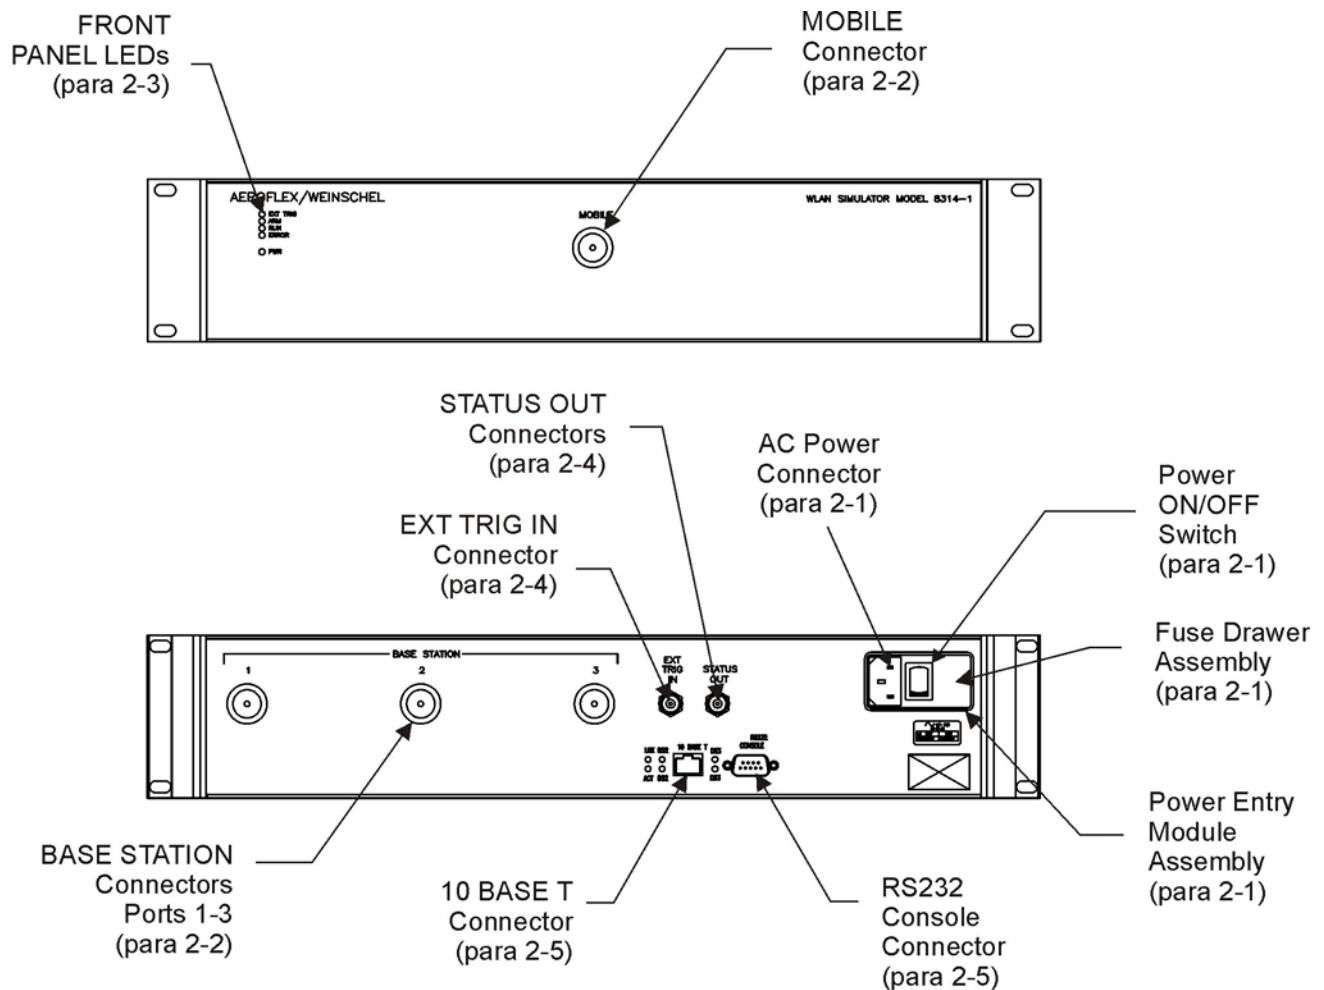

Figure 1. Front & Rear Panel Connectors & Indicators
The following paragraphs provide a description of the connections that can be made to the 8314 WLAN Simulator Subsystem. Figure 1 shows the location of these connectors.
**2-1 POWER ENTRY MODULE ASSEMBLY:** The Power Entry Module Assembly located on the rear panel contains a three-prong ac power input connector and a fuse drawer assembly (Figure 1). The **Fuse Drawer Assembly** contains the line voltage fuse (Aeroflex / Weinschel P/N 052-1-1.5). The Model 8314 uses a T 1.5A, 250 Vac fuse which is 5 x 20 mm in size. Refer to paragraph 8-XXX for replacement of the fuse.
The **AC Power Connector**, located on the left side of XF1 (Figure 1), is a plug-type, prong insert connector with three conductors for connection of the power cord (P/N 068-21) to the Power Supply Assembly located within the WLAN Simulator Subsystem. This connector also grounds the chassis of the WLAN Simulator Subsystem when the ac power cord is connected to a grounded wall outlet. If necessary, use a three prong to two prong adapter and connect the adapter's ground lead to the outlet plate retaining screw.
**2-5. ETHERNET CONTROLLER LED's & HARDWARE SETTINGS:** The following paragraphs provide a description for each of the rear panel Ethernet LEDs, hardware settings for the internal Ethernet controller card and signal – pin locations for the 10BaseT and RS232 connectors. Figure 1 shows the location of these connectors.